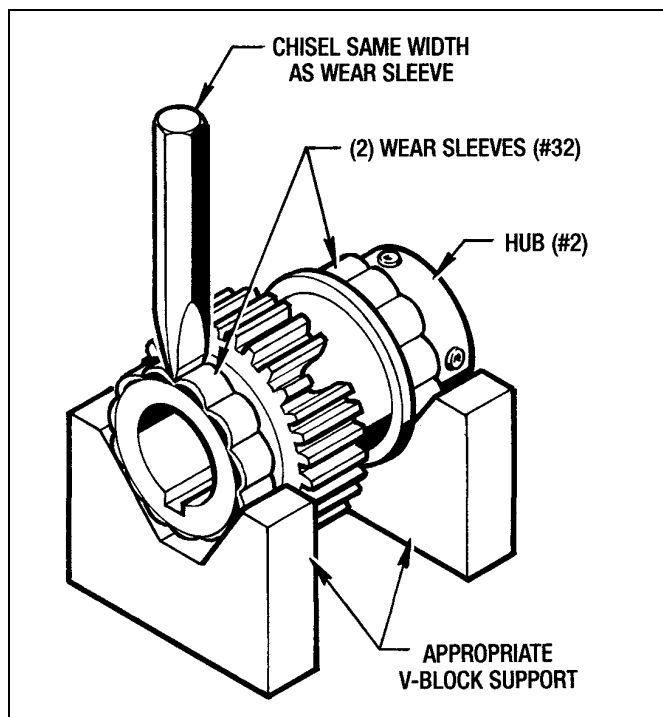

Figure 7.4 - Removing Wear Sleeves (#32)
- Loosen the (2) Set Screws (#108) and pull the Hub (#2) straight up and off the motor shaft and out of the bottom Oil Seal (#31). **Be careful not to damage the lip of the Oil Seal (#31).**
- With a chisel the same width as the Wear Sleeve (#32), make about 8 to 10 notches in each Wear Sleeve to be replaced. They can then be removed by hand. (See Figure 7.4)
- Take the Input Housing (#7) off the drive motor to remove the bottom Oil Seal (#31). The mounting screws have **Red Loctite #271** on them so they will have to be heated up with a blow torch to remove them. **Be sure to use gloves when handling heated parts.** Discard the (2) or (4) Brass Washers under the screw heads. They have to be replaced with new ones at Reassembly.